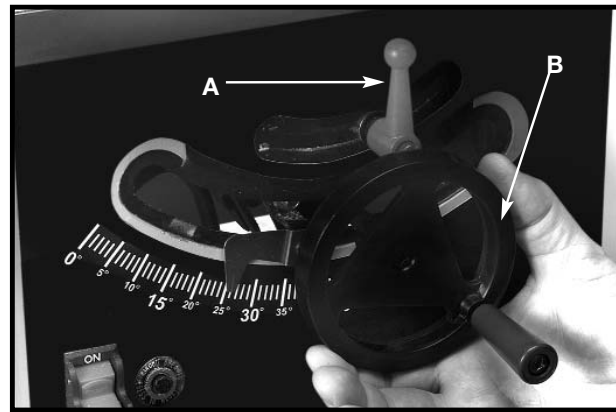
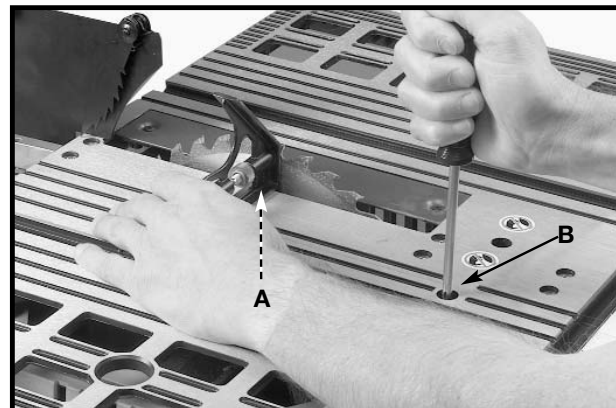
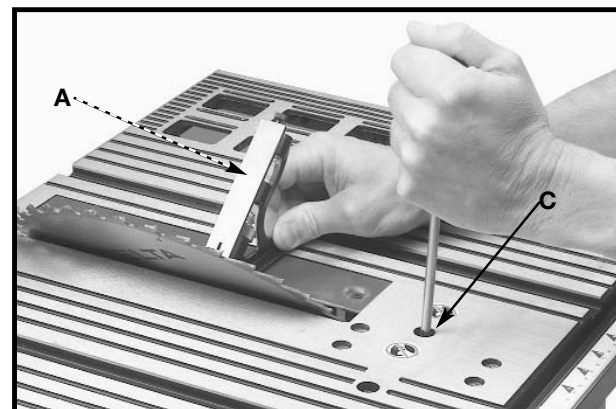

Fig. 32
Fig. 33
Fig. 34
To tilt the saw blade, loosen the lock handle (A) Fig. 32 and move the handwheel (B) until the blade is at the desired angle. Tighten the lock handle (A).
**NOTE:** The lock handle (A) is spring-loaded. Pull out on the handle (A) and reposition it on the serrated stud located underneath the handle.
**⚠ WARNING** THE BLADE TILTING LOCK HANDLE (A) MUST BE LOCKED DURING ALL CUTTING OPERATIONS.
2. Loosen the blade tilting lock handle (A) Fig. 32, move the blade tilting mechanism (B) as far as possible to the left, and tighten the blade tilting lock handle (A).
3. Place a square (A) Fig. 33 on the table with one end of the square against the blade, and check to see if the blade is 90 degrees to the table. If not, loosen the screw (B) Fig. 33 a few turns and move the blade tilting mechanism until the blade is 90 degrees to the table. Tighten the blade tilting lock handle (A) Fig. 32, and tighten the screw (B) Fig. 33 until it stops.
2. Loosen the blade tilting lock handle (A) Fig. 32, move the blade tilting mechanism (B) as far as possible to the right, and tighten the blade tilting lock handle (A).
3. Place a square (A) Fig. 34 on the table with one end of the square against the blade, and see if the blade is 45 degrees to the table. If not, loosen the screw (C) Fig. 34 a few turns and move the blade tilting mechanism (B) Fig. 32, until the blade is 45 degrees to the table. Tighten the blade tilting lock handle (A) Fig. 32, and tighten the screw (C) Fig. 34 until it stops.